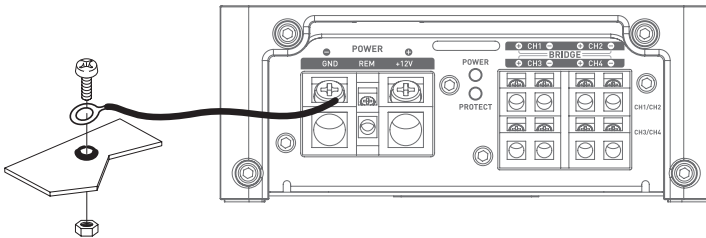

fig. 2
- 10 - Prepare the chassis ground (earth) by removing all traces of paint from the metal surface, thus ensuring a good ground (earth) contact. Ground (earth) connections should be as short as possible and **ALWAYS** connected to metal welded to the vehicle bodywork or chassis (**Fig. 2**). The grounding (earthing) point usually chosen is the one used to connect the negative terminal of the battery to the vehicle chassis.
3.3.2 – Locate the negative (-) power cable. This cable should be as short as possible and ideally should not exceed 1 meter in length, in order to ensure an optimal connection between the amplifier and the vehicle chassis. The cable and its gauge must be in accordance with the table in 3.1. Locate an appropriate ground (earth) point, then sand it to remove all traces of paint or other finish, thus optimising the quality of the connection. Drill through the sheet metal you have previously sanded, making a hole to match the bolt you have chosen, ensuring you are well clear of all cable routes, reservoirs or tanks or other sensitive vehicle parts. Solder and insulate (using heat shrink sleeving) the earth cable to the FPX amplifier earth connector supplied (*Fig. 2*).